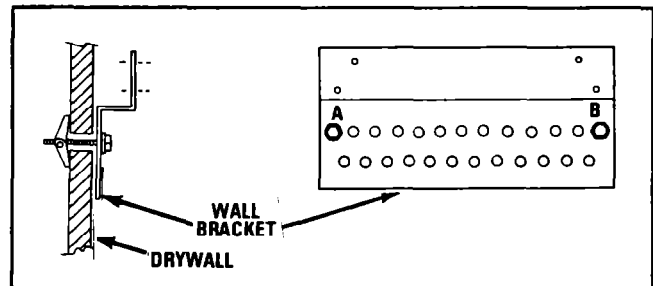

FIGURE 6
6. Mount the wall bracket using lag screw(s) and/or toggle bolt(s) and secure to wall. See Figure 6.